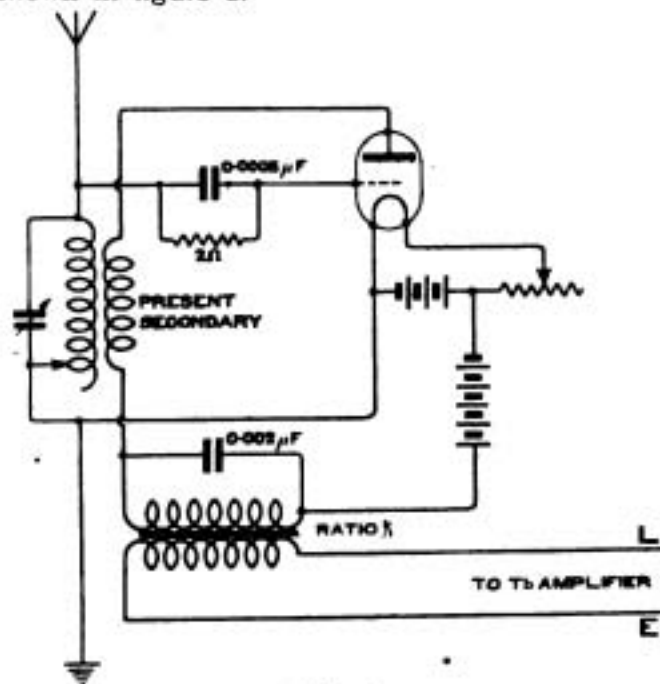

Fig. 3.
**R.H.P. (Birmingham).**—(1) For a single valve this is the best circuit to use.
(2) They are standard low resistance telephones, total resistance 120 ohms. i.e., 60 ohms to each earpiece.
(3) The secondary may be wound directly over the primary, if you are sure that the primary is OK. Windings should be—H.R. 3 oz. of No. 44, and L.R. 6 oz. of No. 30. Core should be of soft iron wire, about 3" long, and  $\frac{1}{2}$ " diameter.
(4) Telephony is better on a good single valve set than with a crystal, owing to the advantages gained by use of the reaction coil.
**C.W.P. (Southampton).**—(1) and (2) The circuit submitted is badly proportioned. The primary maximum wavelength is 14,000 ms., and that of the secondary is 7,000 ms. Re-arrange the circuit as shown in figure 3.